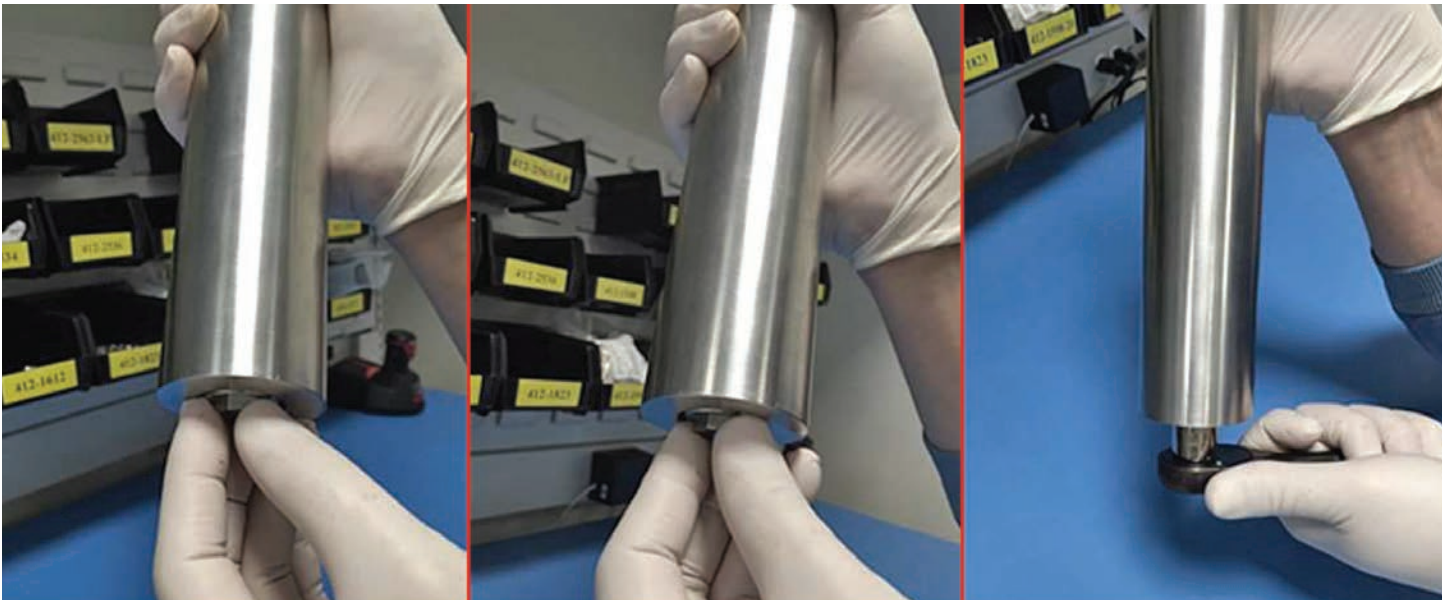

Figure 59: Replacing mirror end cap assembly into the absorption cell
18. Using tweezers, insert the mirror into the hole on top of the shim, with the gold-plated side facing up. Thread the end cap into the bottom of the absorption cell tube. Secure the threaded end cap in place with a 5/8" socket wrench (see Figure 59 below).